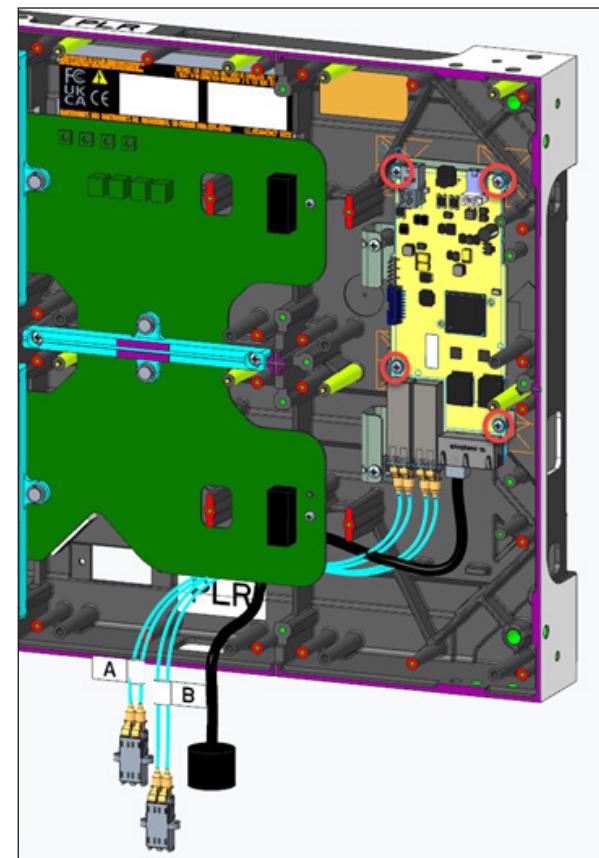

Figure 28: Embedded PLR Removal
4. Disconnect the cables from the PLR and remove the 4 screws that attach the PLR to the plate (circled in red in **Figure 28**).